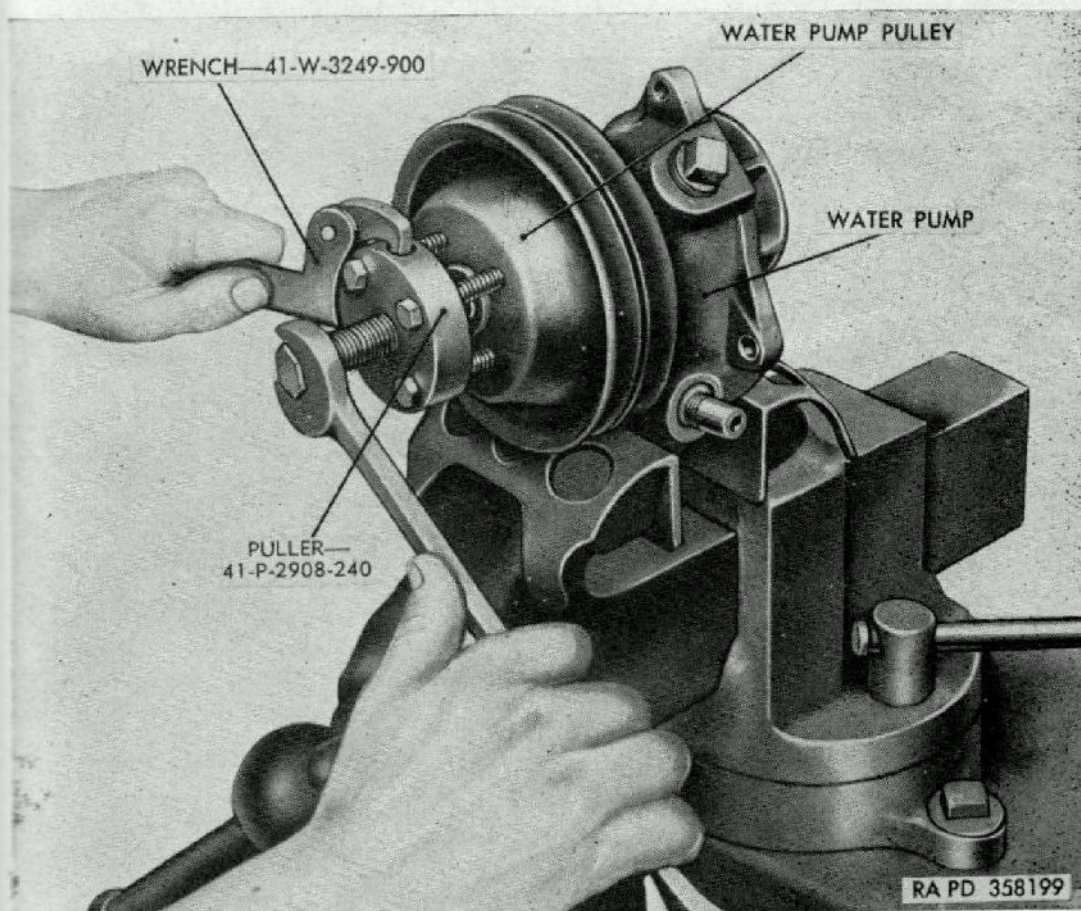

Figure 74. Removing water pump pulley with puller 41-P-2908-240.
- (3) If water pump pulley is to be replaced, proceed as follows: place water pump in a vise equipped with jaw protectors, and remove four cap screws and lockwashers securing fan to water pump and remove fan. Install puller 41-P-2908-240 (fig. 74) on pulley by tightening cap screws of puller into holes in water pump pulley and remove pulley from water pump shaft.